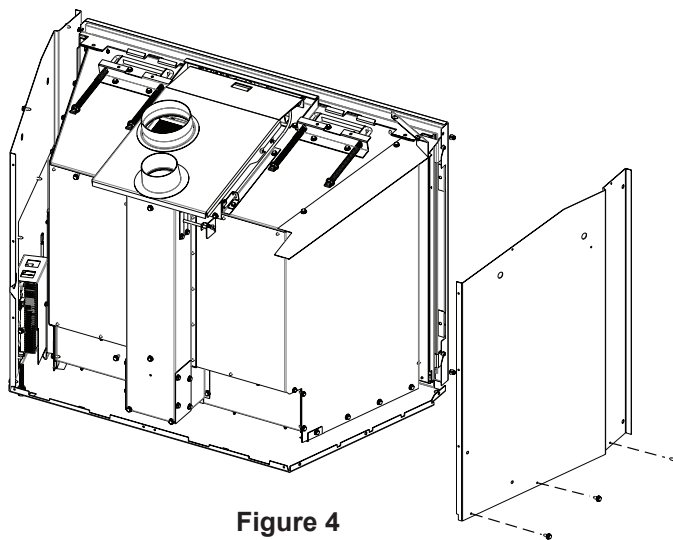

Figure 4
5. Remove 3 screws and remove outer left side. Discard this part, it will not be needed. **See Figure 4.**